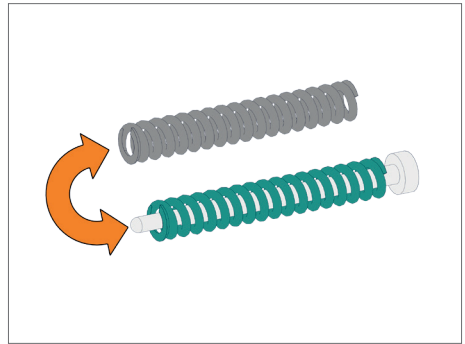

Fig. 12
- Replace the firing pin spring (Fig. 12).